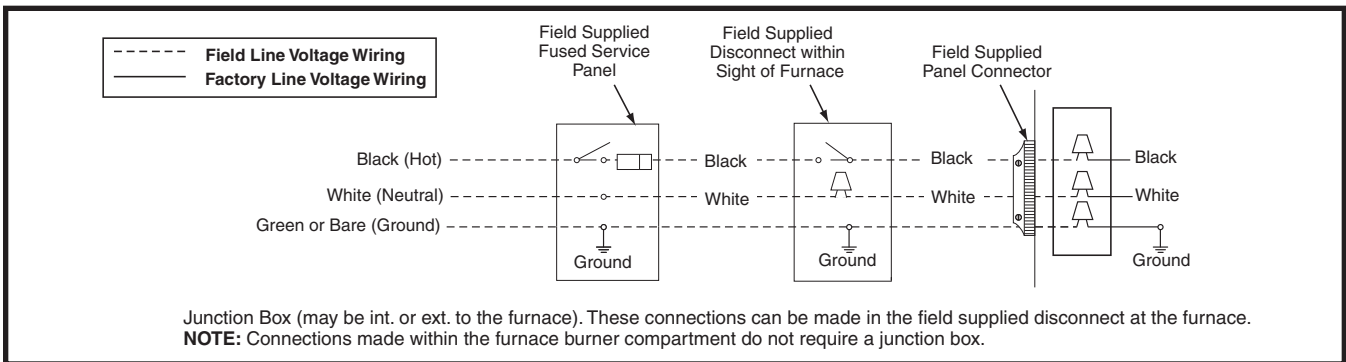

Figure 14. Line Voltage Field Wiring
- An electrical disconnect must be installed readily accessible from and located within sight of the furnace. See Figure 14 or the wiring diagram label inside of the control door. Any other wiring methods must be acceptable to authority having jurisdiction.
- Proper line voltage polarity must be maintained in order for the control system to operate correctly. Verify the incoming neutral line is connected to the white wire and the incoming “hot” line is connected to the black wire. The furnace will not operate unless the polarity and ground are properly connected as shown in Figure 14, \(page 15\).
The operating sequences for the heating, cooling, and fan modes are described below. Refer to the field and furnace wiring diagrams: Figure 14, \(page 15\), Figure 19, \(page 24\), and Figure 20, \(page 25\).
10. Blower off timing of 60, 90, 120, & 180 seconds (depending on the movable jumper setting) begins when the thermostat is satisfied. See Figure 14 (page 16). The control will operate at the selected HEAT speed of 60 seconds, then change to FAN speed for the remaining off delay time. If the blower off delay jumper is not present, the fan should still operate for 120 seconds at the selected HEAT speed. The indoor blower motor is de-energized after a blower off delay as selected by the movable jumper.